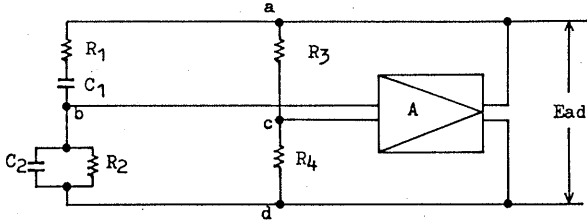

Fig. 2 Oscillator circuit
Referring to Fig. 2, E_{bc} becomes the same phase with E_{ad} when the condition of equation (1) is met and E_{bc} can be expressed with equation (2).